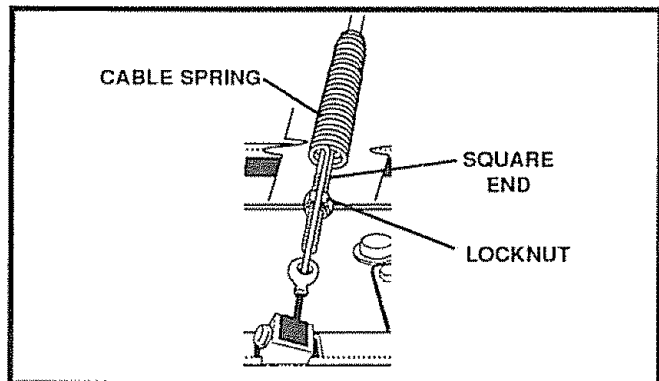

FIG. 23
- Pull rubber boot off the top of the spring. Push the cable through the spring (See Fig. 23) to expose the threaded portion of the cable.